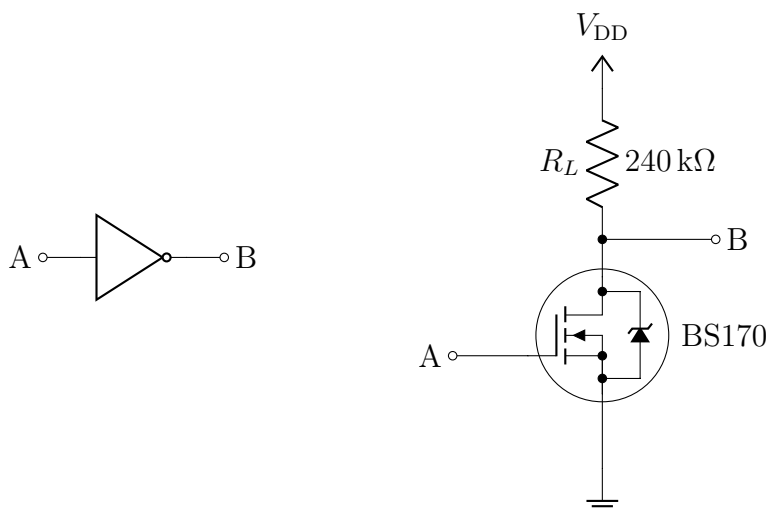
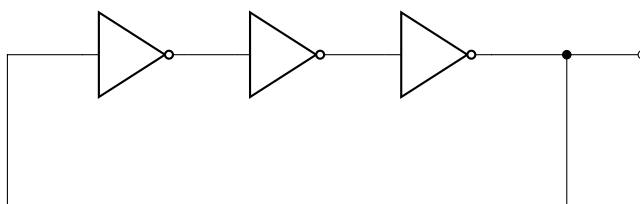

Figure 3: Inverter Gate Symbol and Discrete Diode Implementation
Figure 6: Ring Oscillator Using 3 Inverters
An inverting function cannot be implemented with diodes and resistors alone. A transistor is needed to provide the inverting action. In this lab, you will use the BS170 N-type Metal Oxide Semiconductor Field Effect Transistor (NMOSFET). If the voltage present at the gate of the transistor is above 0.7 V (high), the transistor will conduct, reducing the output voltage to logical '0'. If the input voltage is logical '0' (low), then the transistor does not conduct, and zero voltage drops across the load resistor which results in the output voltage being '1'. A current-limiting resistor at the gate is always needed, otherwise excessive gate current might destroy the transistor. The circuit used in the electrical characterization of the MOS inverter with a resistive load is shown in Figure 3. Digital integrated circuits are circuits based on the principles of Boolean algebra. The binary logic variables in this algebra can assume only one of two possible values which are called the logical '0' and '1' levels. In the electronic circuit implementation of Boolean algebra, these variables correspond to the values designated by the voltages V_{OL} and V_{OH} .
We usually denote negation with a bar above a character. Hence, in Figure 3 we have
2. One very useful application of an Inverter gate is the Inverter Ring Oscillator shown in Figure 6. You will build a self-sustaining Ring Oscillator and measure its output square-wave frequency. (A similar circuit can be built using NAND gates chained together. You have all the knowledge you need to build this circuit, too. Hint: to build a Ring Oscillator with NAND gates, one of the two inputs needs be set to Ground. Most designers choose either the A or B input to be grounded for each NAND gate in the chain in this application.)
1. Build the Ring Oscillator in Figure 6 using an odd number of the discrete NMOSFET BS170 Inverters shown in Figure 3. Observe the output waveform. Notice that no input excitation at the first inverter is needed; the circuit should oscillate at a high frequency when the inverters are on (i.e. when VDD is applied to each discrete MOSFET inverter). Zoom out to view at least 4 periods of the ring oscillator output when determining its period of oscillation.